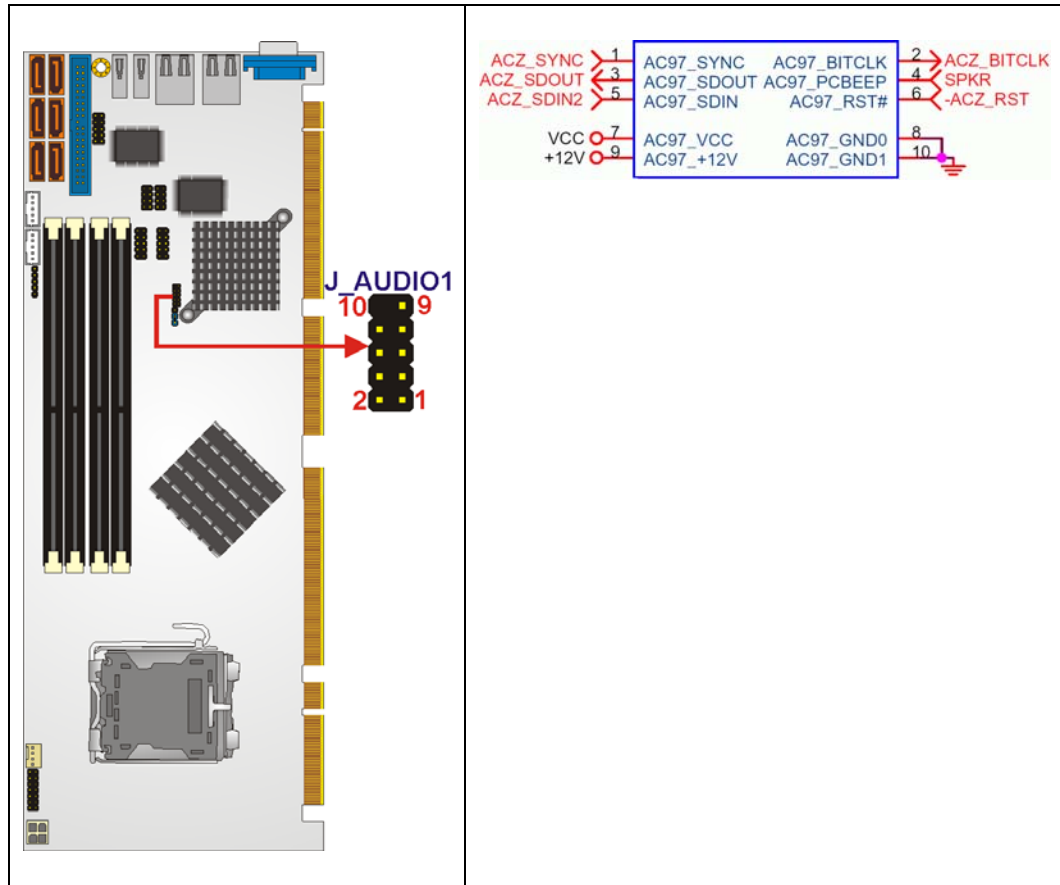

Figure 4-3: Audio Connector Location (9-pin)
**CN Location:** See Figure 4-3